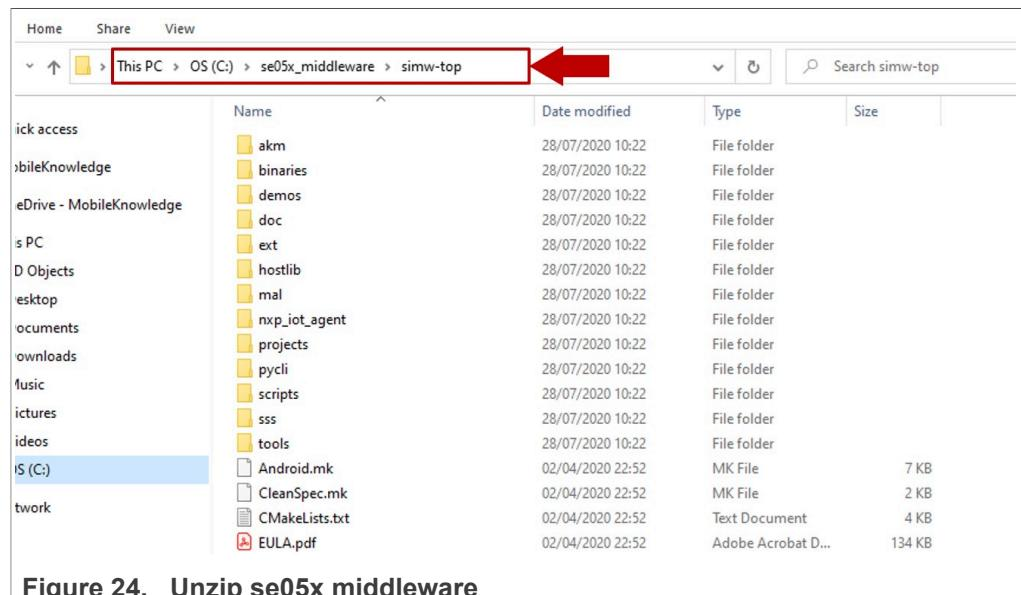

Figure 24. Unzip se05x middleware
3. Unzip the EdgeLock SE05x Plug & Trust middleware inside the **se05x\_middleware** folder. After unzipping, you will see a folder called **simw-top** created. The contents of the **simw-top** directory should look as they appear in Figure 24: